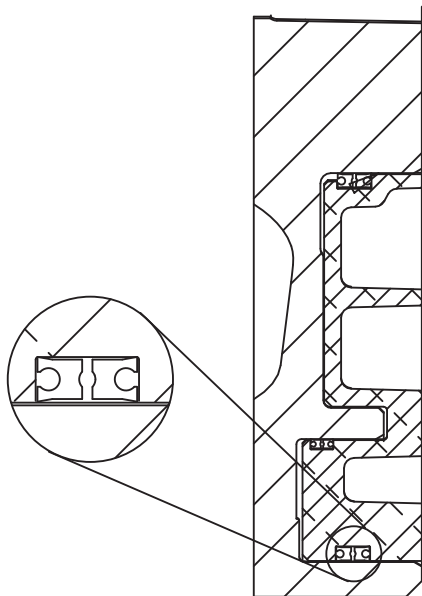

Figure 20
4.9.2 Lubricate the seals (21)(23)(114) with Dow Corning 55M O-ring lubricant, and install them into the seal grooves on the piston (33). Note the orientation of the seal lips, per Figure 20. Lubricate the seal surfaces in the mounting flange/cylinder (112) and evenly insert the piston into the mounting flange/cylinder.